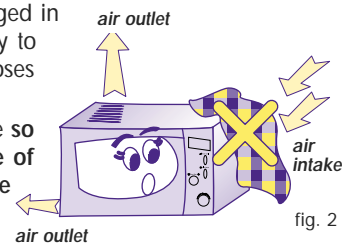

fig. 2
- 4) Never block up or otherwise obstruct the air outlet holes. In particular, never place anything on the oven and check to be certain that the air and steam outlet slots (located atop the oven) are ALWAYS FREE (see Figs. 2 and 3).